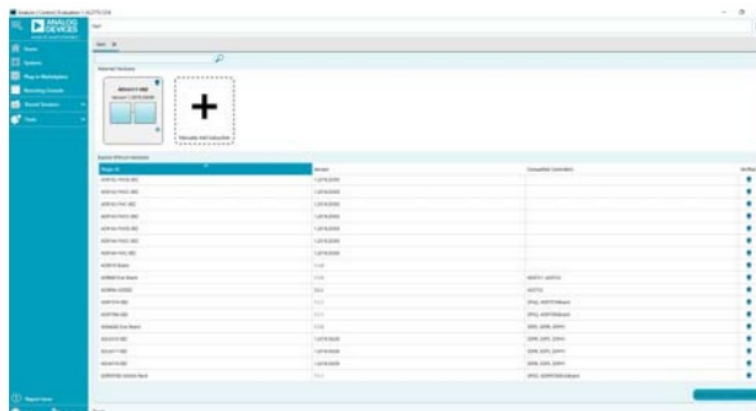

Figure 3. ACE Plugin View
1. Double-click the ACE shortcut on the PC desktop of the computer (if created). The software automatically detects the ADL6317-EVALZ evaluation board. The software opens the ACE plugin view, as shown in Figure 3.